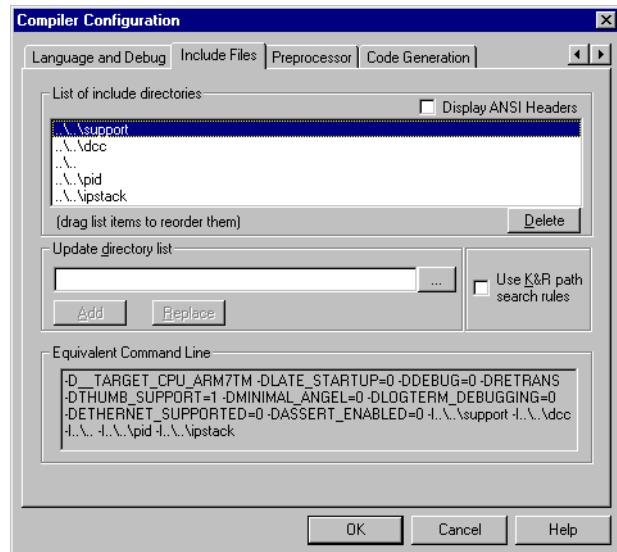

Figure 13-10 Compiler Configuration
10. Select **Project→Tool Configuration→<cc> = armcc→Set**. The Compiler Configuration dialog is displayed (Figure 13-10).